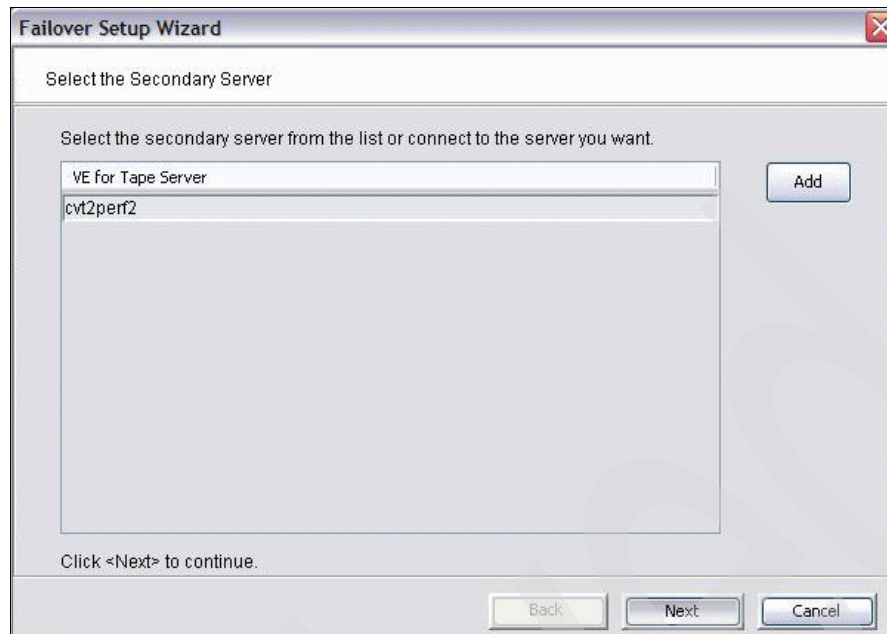

Figure 7-2 Selecting a secondary TS7520 server
2. In the panel that opens (Figure 7-2 on page 256), select the secondary TS7530 Server in the same frame, then click **Next**.